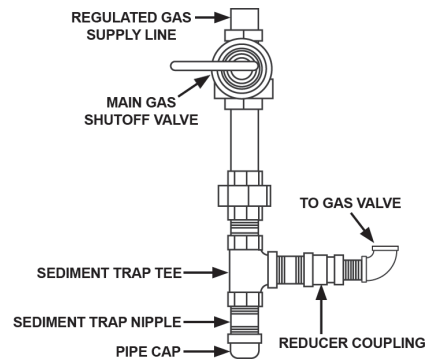
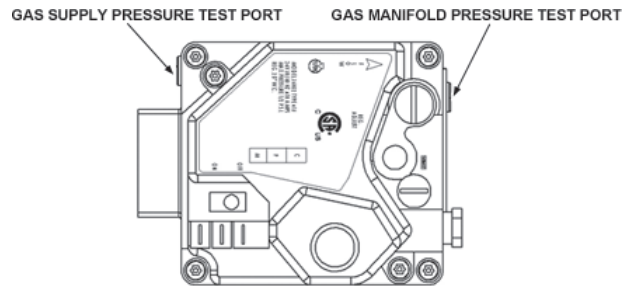

FIGURE 21.
FIGURE 22. – TOP VIEW
To trap any dirt or foreign material in the gas supply line, a sediment trap must be incorporated in the piping (see Figure 21). The sediment trap must be readily accessible and not subject to freezing conditions. Install in accordance with recommendations of serving gas suppliers. Refer to the current edition of the National Fuel Gas Code.
1. For test pressures exceeding 1/2 psi (3.45 kPa) disconnect the water heater and its Main Gas Shutoff Valve from the gas supply piping system during testing, see Figure 21. The gas supply line must be capped when disconnected from the water heater.
1. Close the Main Gas Shutoff Valve, see Figure 21 on page 24.
3. Close the Main Gas Shut Off Valve, see Figure 21 on page 24.
4. Wait five (5) minutes for any residual gas to clear.
5. Open the Supply Gas Pressure Port on the gas control valve by turning the center screw counter-clockwise. Connect the manometer to the supply gas pressure test port, see Figure 22.